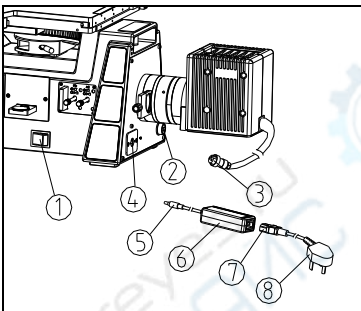

Fig. 12
(1) Ensure the main switch① is on“O”(OFF) (Fig.12)
(2) Insert one side of the wire③ to aviation plug socket ②.
(3)Insert plug⑤ into slot④ from the microscope well.
(4) Insert plug⑦ into slot⑥ from the power supply.
(5) Connect③.